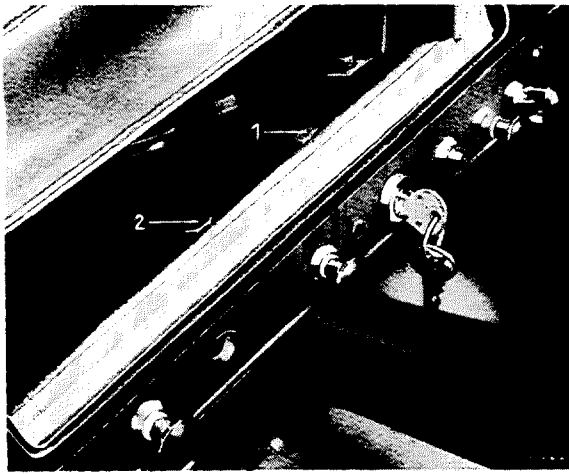

Fig. L 8/5
5. Unscrew the hexagon nuts (3) of the tightening strap at the steering column bracket and take out the tightening strap forward (in the direction of travel) (see Fig. L 8/1).
7. Unscrew the hexagon nuts (1) and (2) from the two steering column bracket stud bolts (Fig. L 8/5).
the blue cable to terminal 61 (see Fig. L 8/4).
11. Insert the steering column bracket with lock; screw on and tighten the two hexagon nuts for the two stud bolts (4) (see Fig. L 8/5).
Note: The attaching plate can be centered with the cylinder of the lock by moving the threaded bolts (see Fig. L 8/5).
13. Insert the tightening strap which fixes the steering column jacket from the front and by means of the tightening strap (2), fix the steering column jacket to the steering column bracket by screwing on and tightening the hexagon nuts (3) (see Fig. L 8/1).